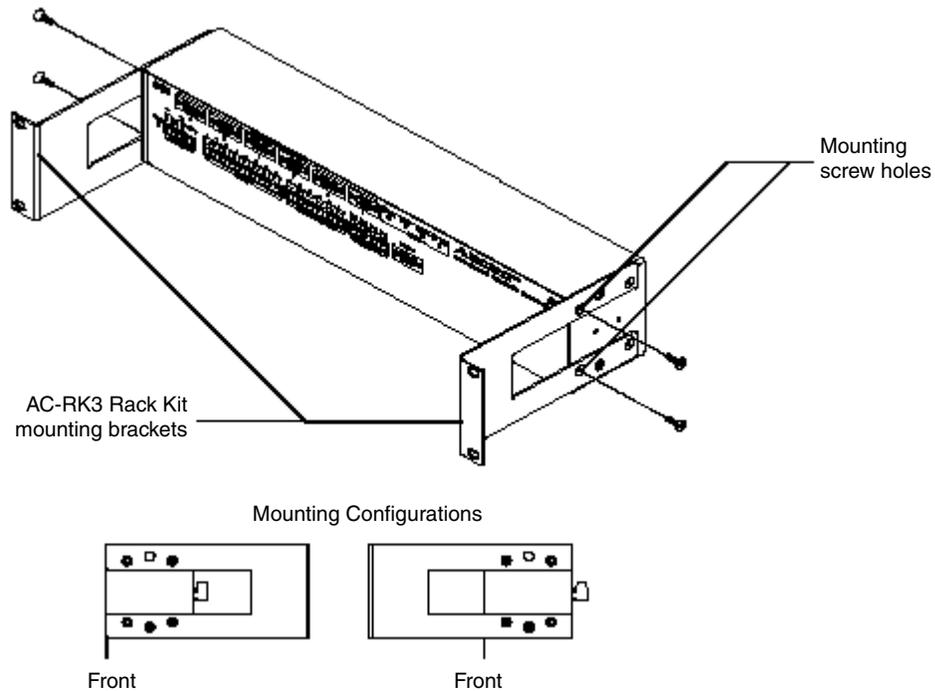

FIG. 2 AC-RK3 Rack Kit mounting diagram
3. Install the AC-RK3 brackets with the supplied Phillips-head screws. Align the bracket holes with the mounting brackets on the equipment rack. Then, start the mounting screws on both sides of the controller and tighten (see FIG. 2).